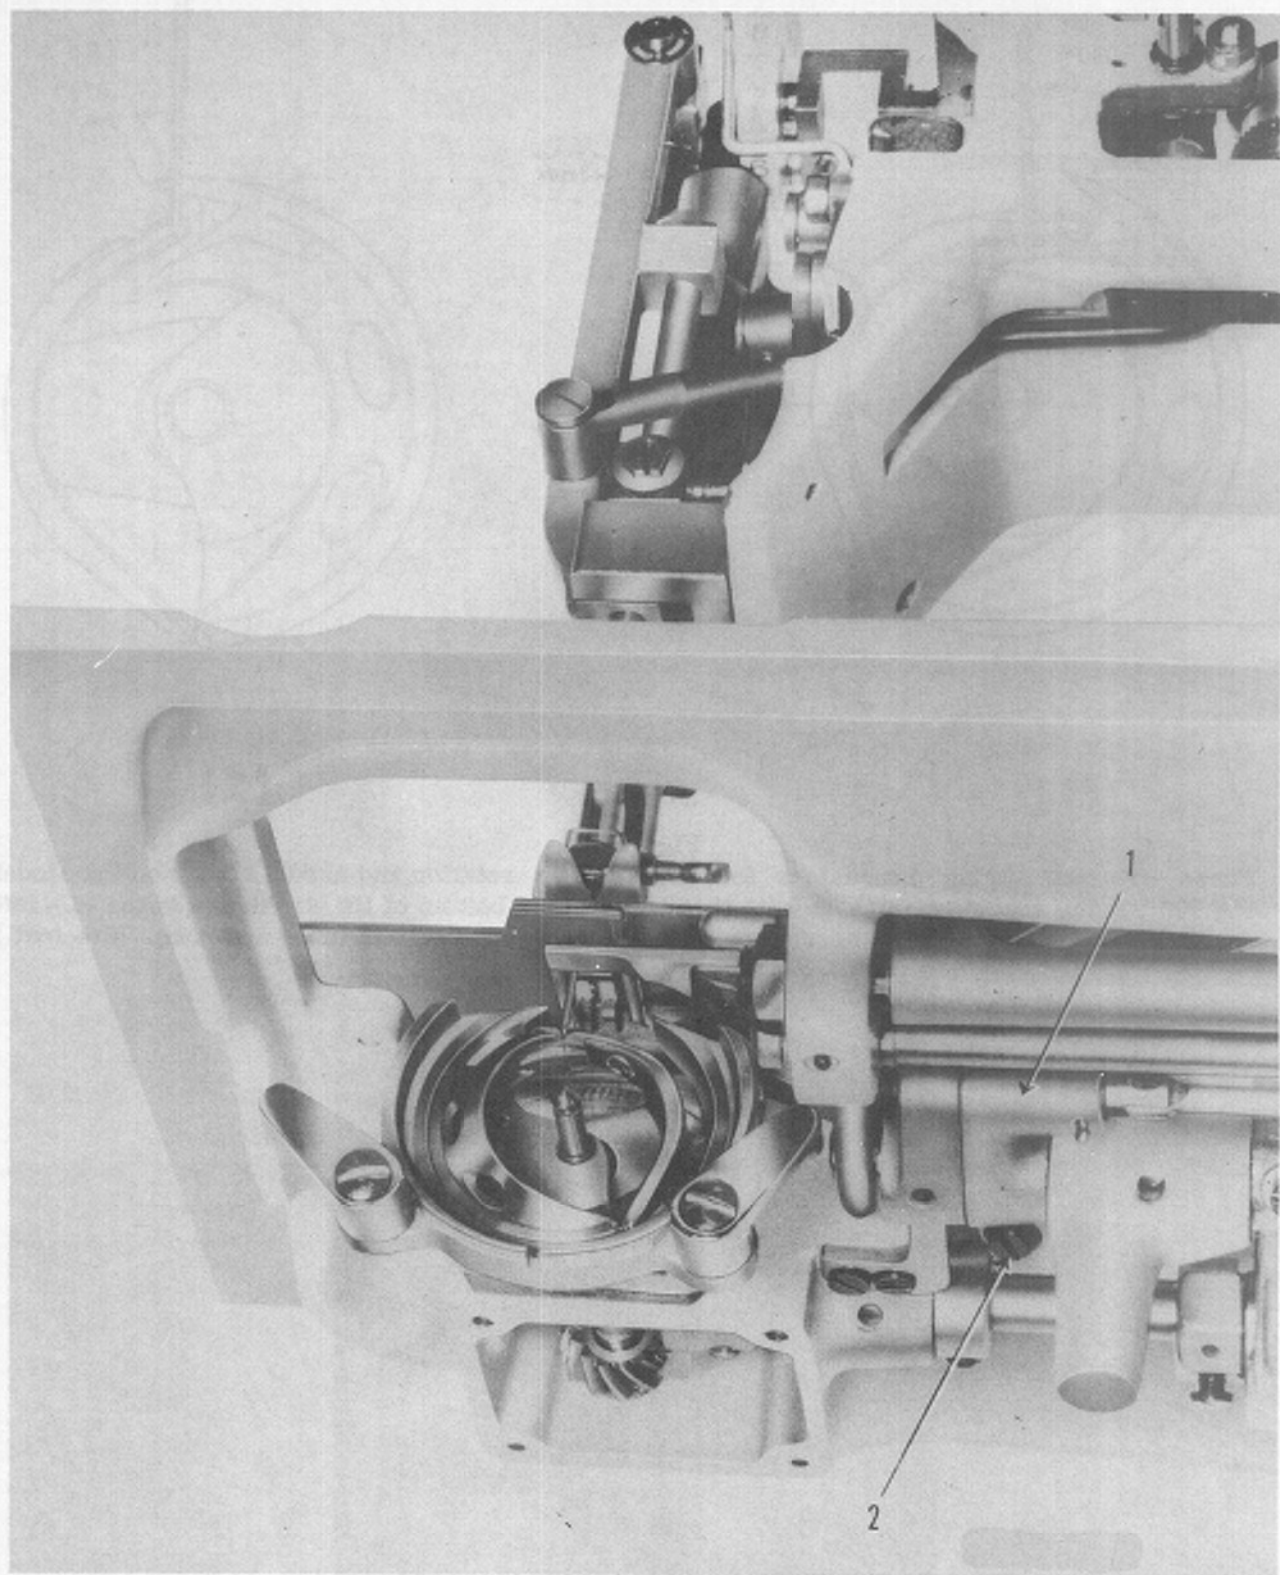

Figure 10
4. Feed Dog Height. The feed dogs, at their highest point should rise between .035" and .040" (this is just between 1/32" and 3/64") above the needle plate. This can be adjusted by adjusting the Drop Feed Center Block (Figure 10 No. 1) on the Feed Lifting Shaft. Loosen screw (Figure 10 No. 2) and turn the Center Block slightly toward the front of the machine to raise the feed dogs and toward the rear to lower them.
5. If the feed dogs tend to pull the material to either the right or left, rather than straight, check to see that the feed dogs are level and properly aligned. To adjust, remove the needle plate and loosen the two screws which mount the feed dogs on the feed bar frame (Figure 10 No. 3) and adjust as necessary. After adjusting check to see that the feed dogs clear within the needle plate slots when stitch length is set on "4".